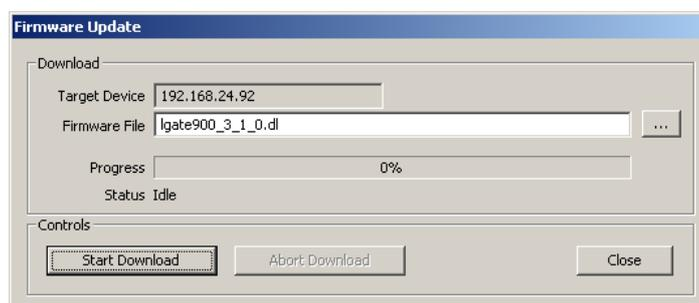

Figure 116: Firmware Update dialog of the L-Gateway configuration software.
6. This opens the Firmware Update dialog as shown in Figure 116. Click on the button "...” and select the firmware image ("lgate900_3_1_0.dl").